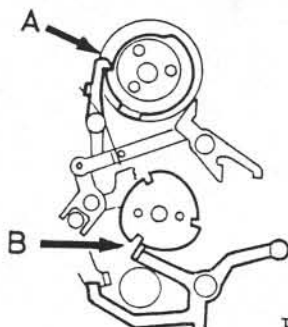

Fig. 32-1
2. Set the Counter cam assy. (0-B104) as shown in Fig. 32-1 A.
3. Set the Wind actuating lever assy. (0-B159) at the lowest part of the Film advance restriction cam gear assy. (0-B137) as shown in Fig. 32-1 B.